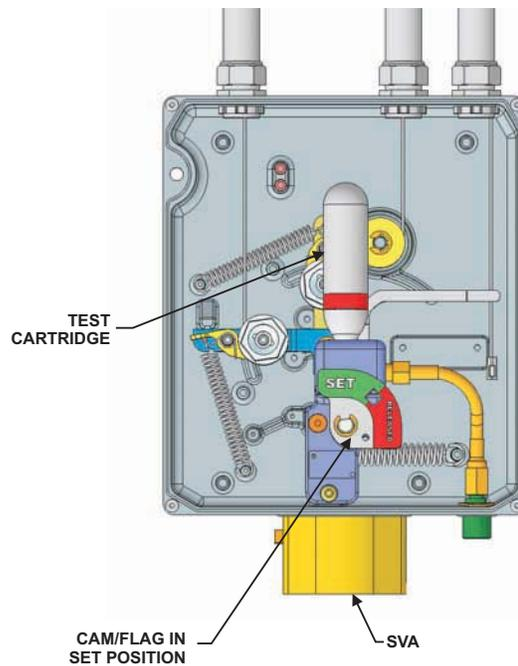

Figure 5-12. Universal Control Head, Test Cartridge
1. Ensure that the system is in the 'Set' position and the Keeper Pin is in place. Carefully install the Test Cartridge (P/N B120043) into the valve assembly of the Universal Control Head. Tighten until cartridge is snug (see Figure 5-12).